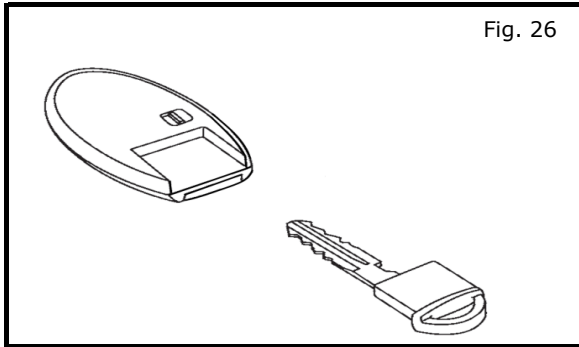

Fig. 26
- a) Insert keys into the new RES fobs as shown in Fig. 26.